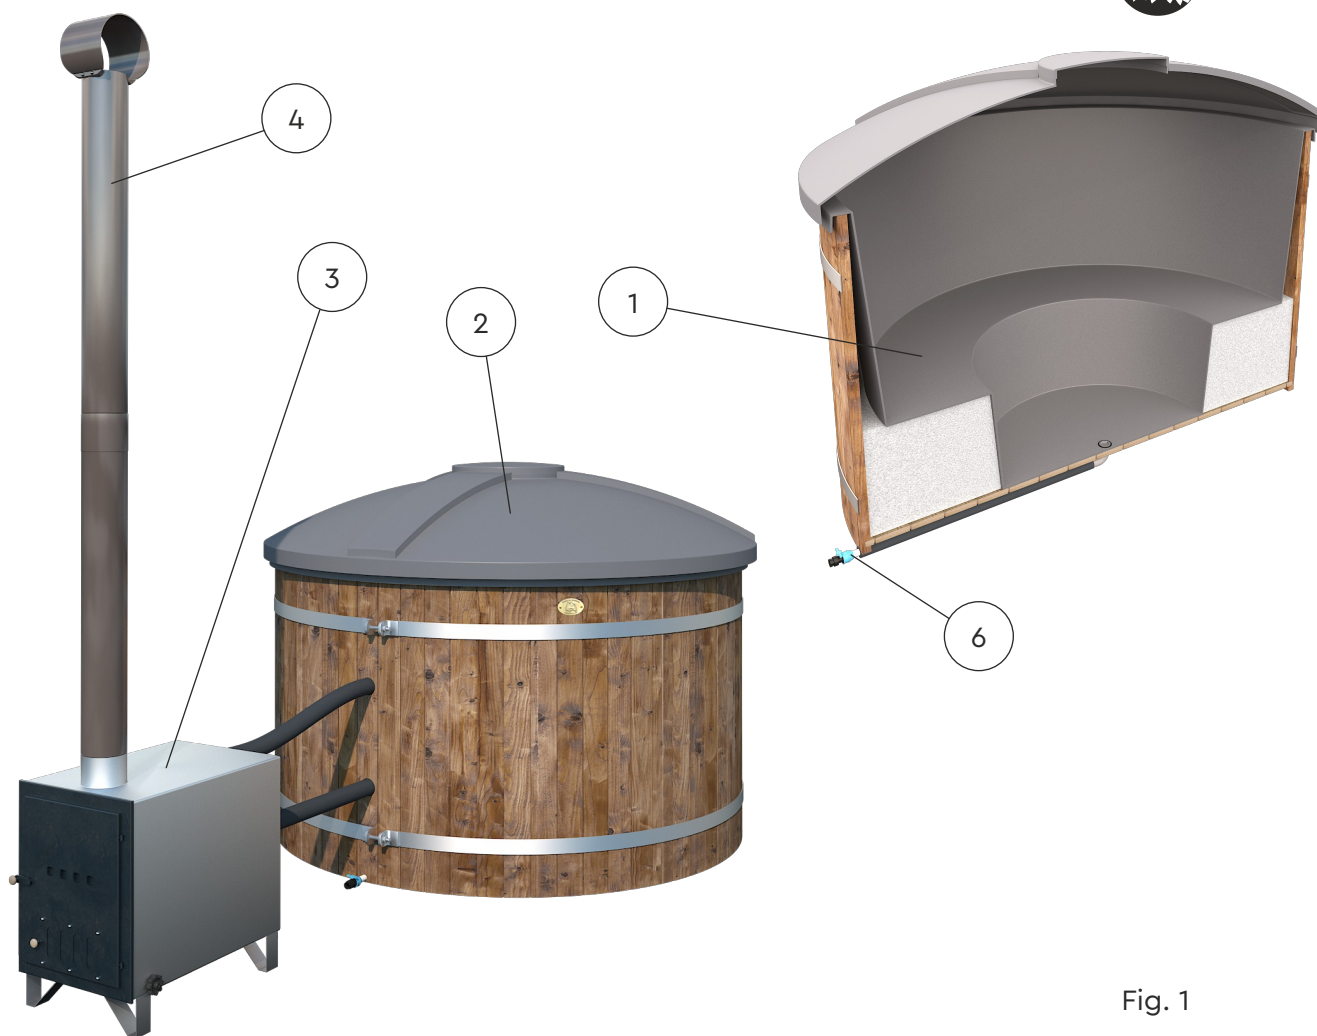

Fig. 1
Hot tube – the part of the hot tub filled with water (see Fig. 1).
6. Drain tap of the hot tub see Fig. 1